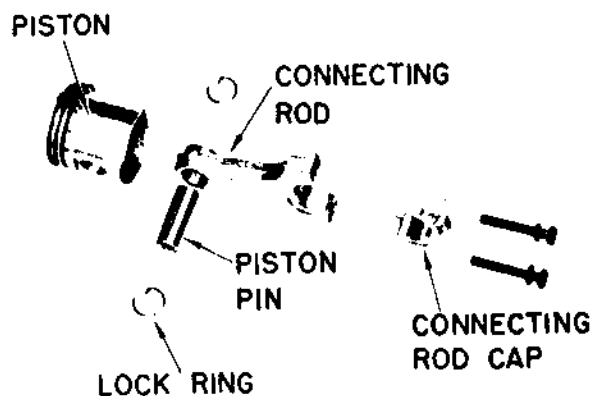

Figure 3-6. Connecting Rod, Piston, and Pin
b. Match mark and disassemble piston, pin, connecting rods, and caps. See figure 3-6.